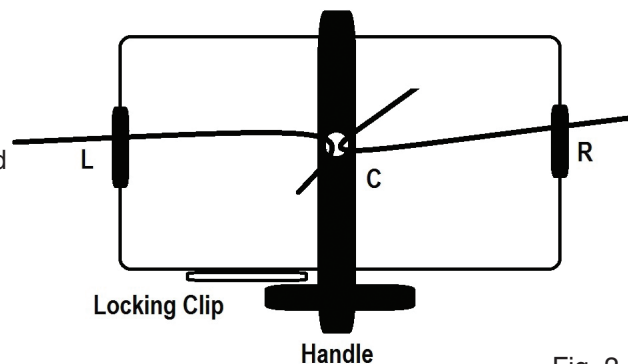

Fig. 2
5. Feed the two ends of the cable through the winch, one cable on each side (L and R) and then through the center hole (C) as shown, one through the top and one through the bottom of (C) (Fig. 2).